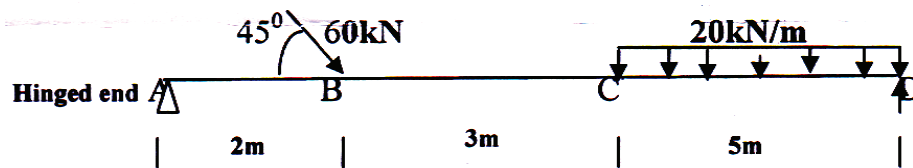

Figure 5.1
- b) Draw shear force diagram, bending moment diagram for the beam ABCD with end 'A' hinged and loaded as shown in Figure 5.1. [6]